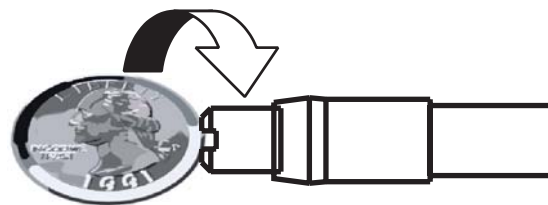

FIGURE 2-4
4. Once the Insert Retainer Screw is seated against the bore rod use a cartridge case, coin, screwdriver or knife blade to lightly tighten the Insert Retainer Screw. See Figure 2-4 below.